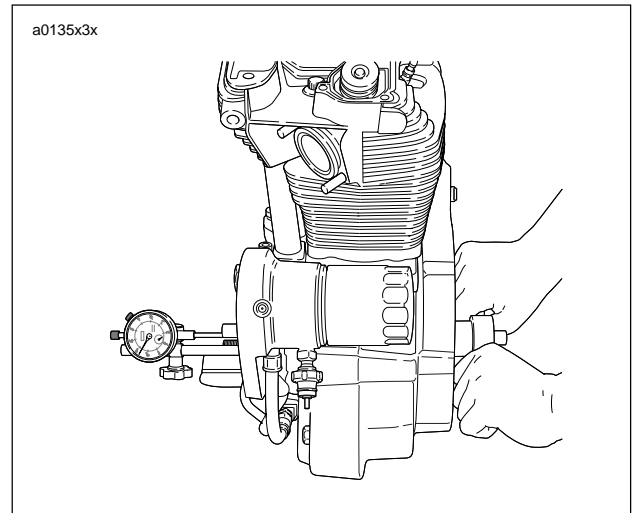

Figure 3-119. Checking Flywheel End Play
- See Figure 3-119. Attach a dial indicator to gear side crankcase with indicator stem on end of gearshaft.